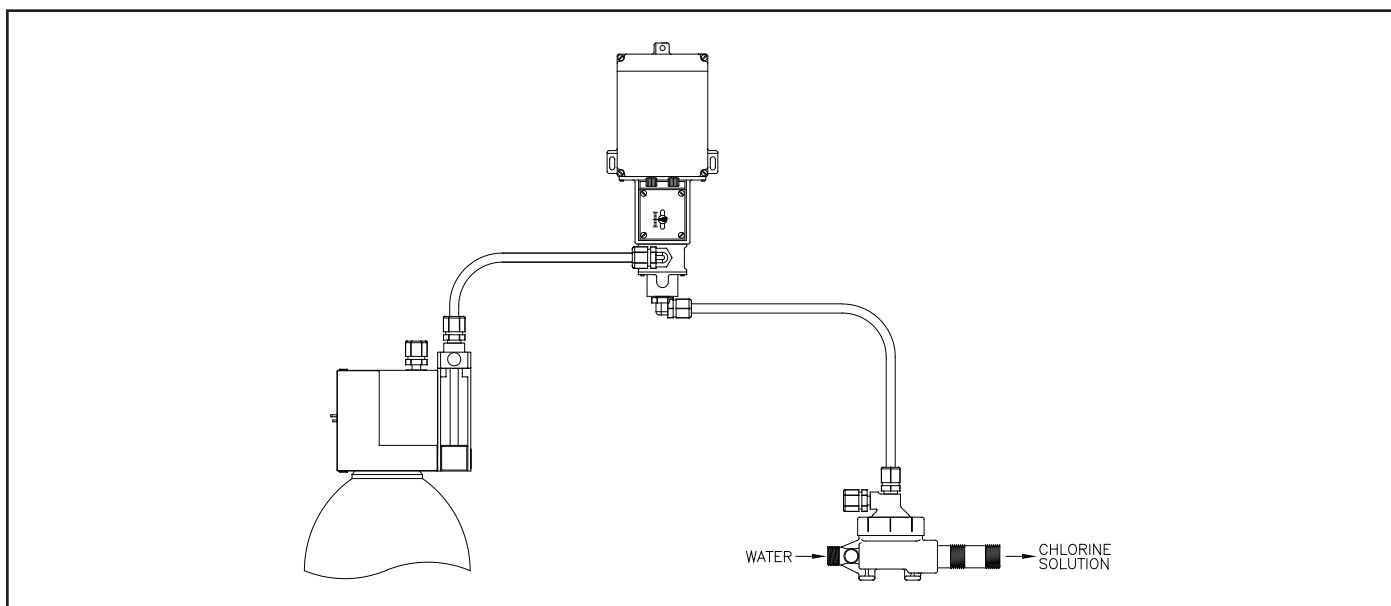

Figure 1 - Typical Vacuum Installation
The 3000 valve has 1/2" NPT inlet and outlet connections in the PVC body for capacities up to 500 PPD (10 kg/h). The Valve is furnished with two 90° 1/2" NPT x 5/8" tubing elbows. 5/8" flexible tubing (5/8" OD x 1/2" ID) should be used to make the connections. One (1) inch NPT threaded inlet and outlet connections are provided for 1000 - 3000 PPD (20 - 60 kg/h) capacities. As shown in Figure 1, connect a line from the flowmeter outlet to the valve inlet (side of the valve). Connect the valve outlet (bottom of the valve) to the ejector inlet. If necessary, the valve body can be rotated 120° so that the outlet faces right or left rather than forward, as shipped. To rotate the body, remove the three body screws; rotate the body and retighten the screws securely.